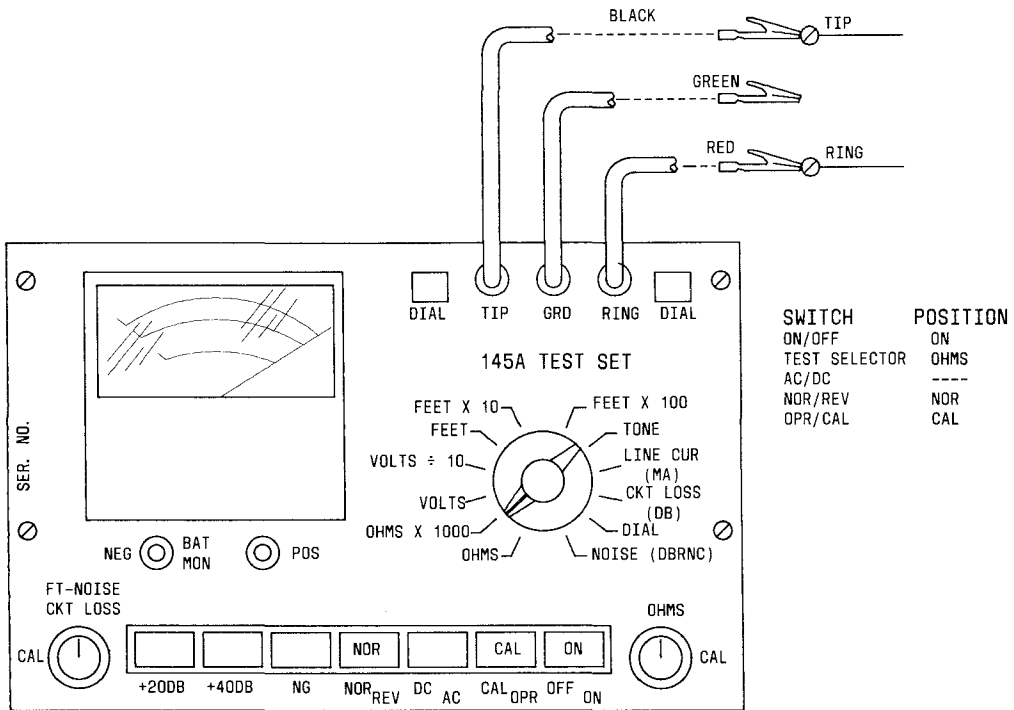

Fig. 3—Ohms Calibration
- (a) Place the CAL/OPR switch in the CAL position and OFF/ON switch in ON position (Fig. 3).